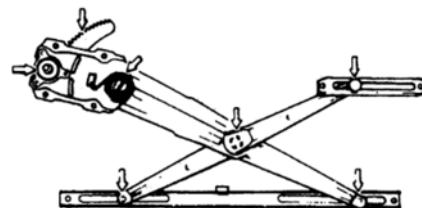

Fig. 4.1-7
- 1) Daub multi-purpose grease on all sliding and turning parts of front door glass regulator, see the positions indicated by arrowheads in Fig. 4.1-7.